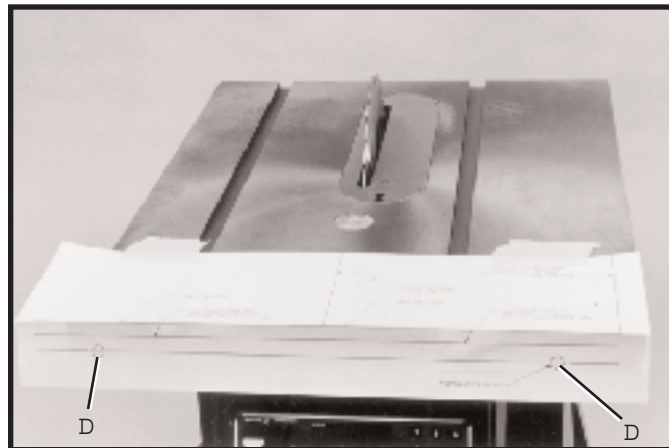

Fig. 21
8. Check to see if the two holes (D) Fig. 21, illustrated on the template match the holes on the front edge of your saw table.
A. If the location of the holes in your saw table match the holes (D) Fig. 21, illustrated on the template and are $7/16$ in diameter, remove the template and proceed to STEP 13. IMPORTANT: IF HOLES IN FRONT OF SAW ARE THREADED, THEY MUST BE DRILLED OUT.
B. If the location of the holes in your saw table match the holes (D) Fig. 21, illustrated on the template but are not $7/16$ in diameter, remove the template and enlarge the holes in the table by drilling them out. Then proceed to STEP 13.
C. If the location of the holes in your saw table do not match holes (D) Fig. 21, illustrated on the template, it will be necessary to drill two new $7/16$ diameter holes in the saw table at locations indicated at (D), on the template, providing structural ribs or existing holes in the table do not interfere with the two new holes. Center punch to locate the two new holes to be drilled and remove the template. Drill the two new $7/16$ diameter holes in the table and proceed to STEP 13.